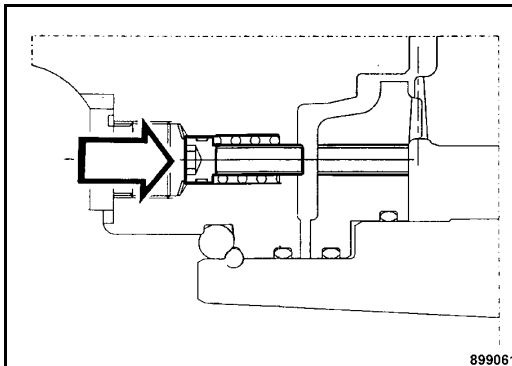

Fig. 105
- Press both screws (Fig. 105) in against springs.